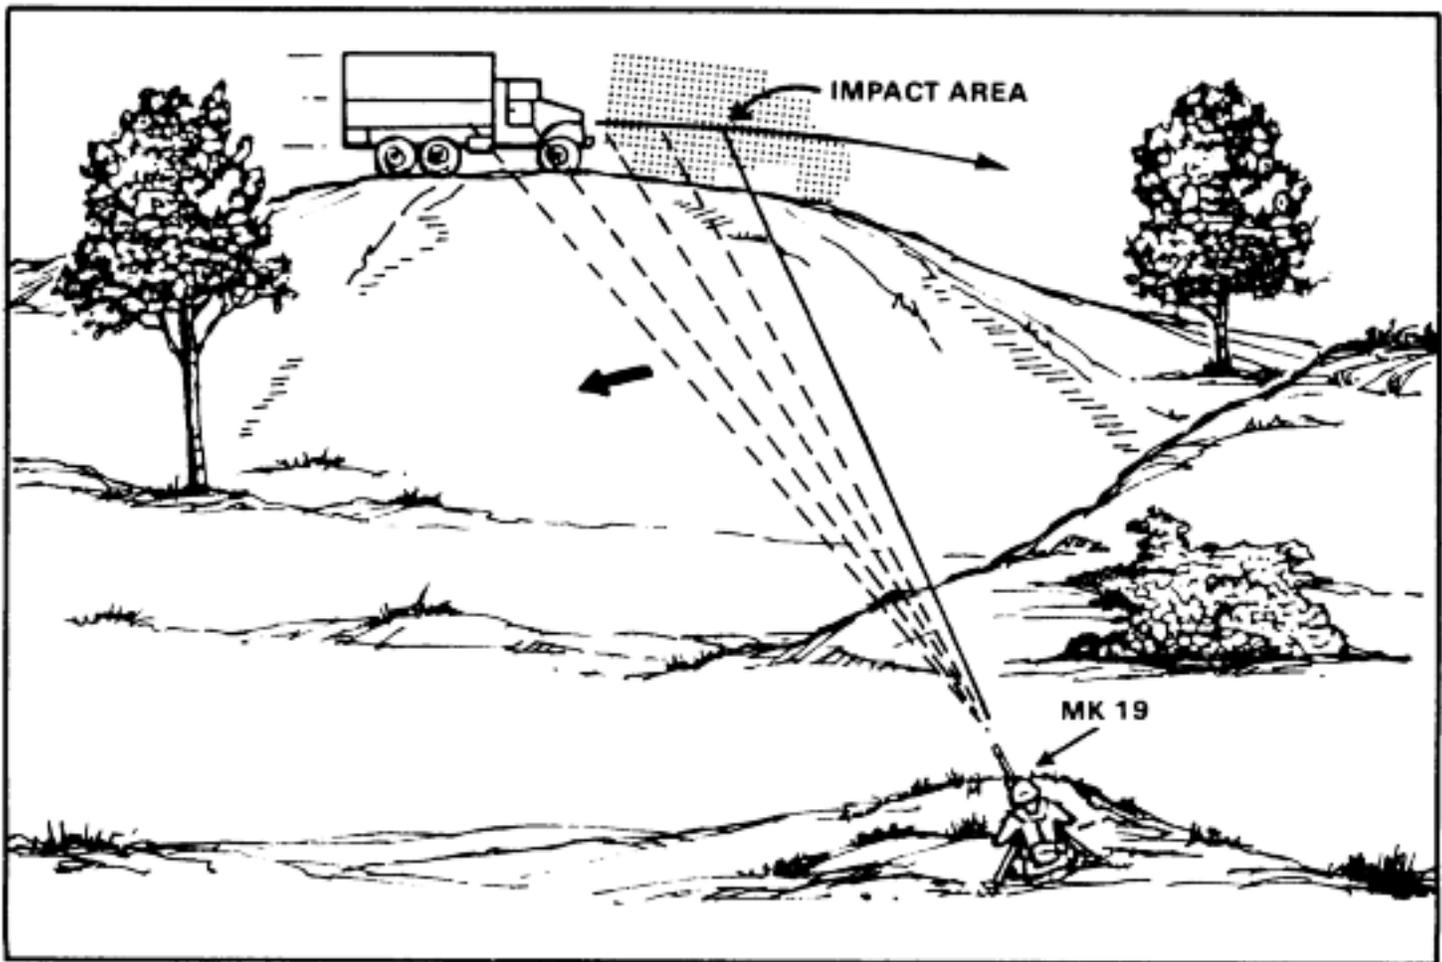

Figure 6-18. Target-trapping method.
f. Engagement of Moving targets. Due to the slow flight of the MK 19 round, it is not practical to engage moving targets using the track-and-lead methods of engaging moving targets. In order to effectively engage moving targets with the MK 19, use the trapping method of engaging targets. The gunner chooses an aiming point forward of the target and on the target path, and presses the trigger before the target comes into the sights. After starting to fire, the gunner moves the MK 19 slowly toward the target. The target moves into the impact area, and is "trapped." The gunner must begin firing before the target is in the sights or in the impact area (Figure 6-18).